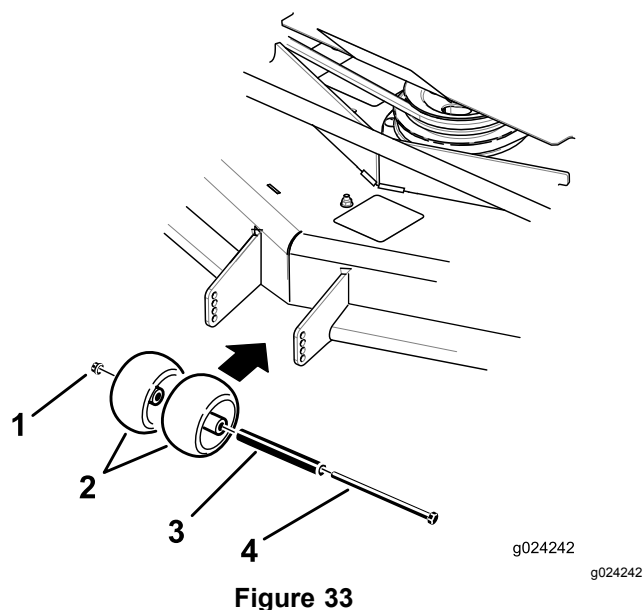
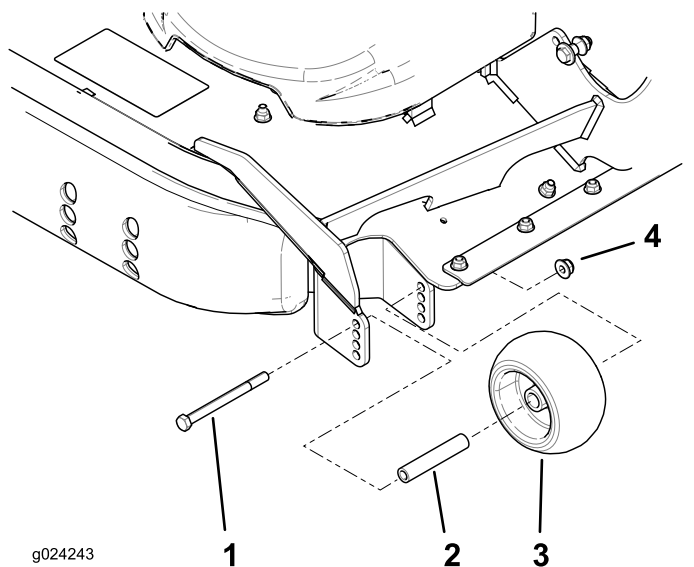

Figure 33
Figure 34
3. Adjust the anti-scalp rollers as shown in Figure 33 and Figure 34.